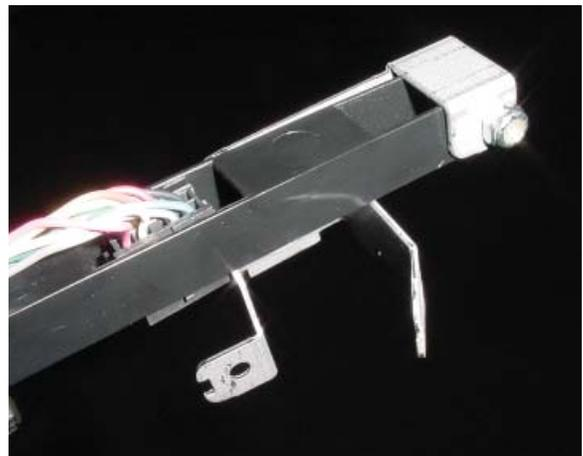

Figure 11.
24. Install the chain adapter bracket and the large cable chain harness below the X-axis motor assembly. (See Figure 11.) Secure these with the two screws that were removed in Step 16.